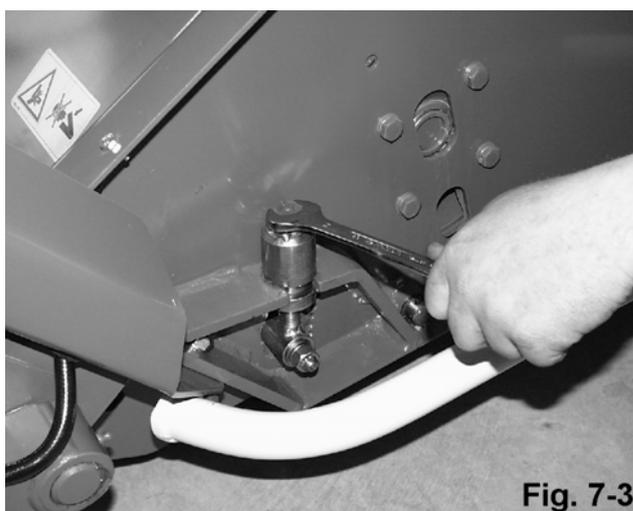

Fig. 7-3
- Move the cage roller into the required position by turning the adjusting screws (fig. 7-3).